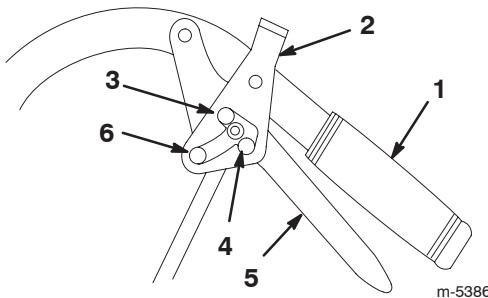

Figure 17
1. Squeeze the drive levers back (Fig. 17).
2. Place your thumbs on the upper part of the locks and move them forward into the **Park** position (Fig. 17).
2. Place your thumbs on the upper part of the locks and move them rearward until they are in the **Drive** position (Fig. 17).
2. Place your thumbs on the upper part of the locks and move them rearward into the **Neutral Lock** position (Fig. 17).
2. Place your thumbs on the upper part of the locks and move them forward until they are in the **Drive** position (Fig. 17).